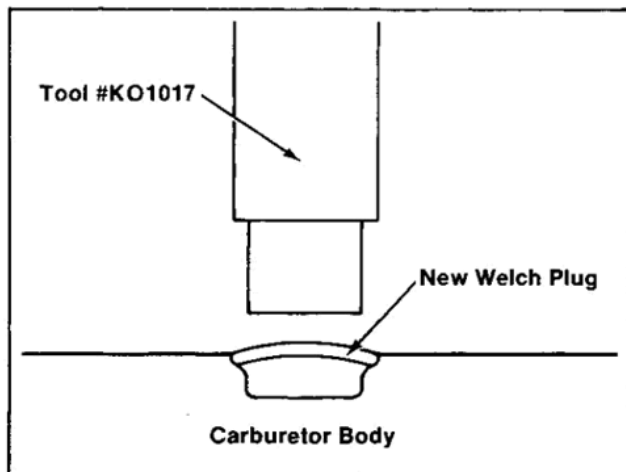

Figure 6-16. Installing Welch Plugs.
- B. Place a new welch plug into the cavity with the raised portion up. Use the end of the tool that is about the same size as plug and **flatten** the plug. Do not force the plug below the top surface. Refer to Figure 6-16.